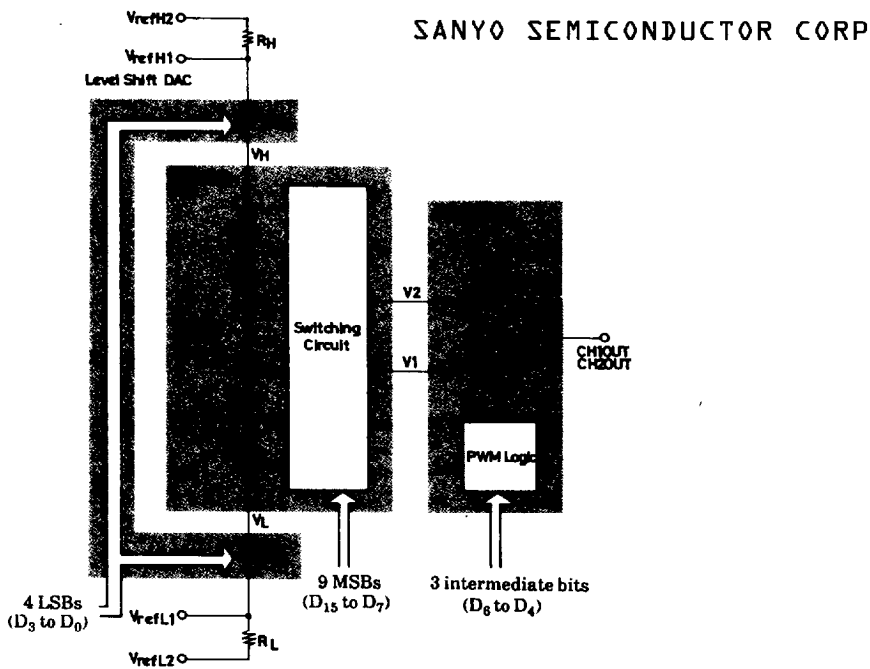

Fig.1 D/A Conversion System of the LC7881
(2) Conversion (See Fig.1.)
(3) Vref Terminal (See Fig.1.)
The internal resistors (R_H and R_L shown in Fig.1) limit the maximum amplitude to about 2V (peak to peak) level.